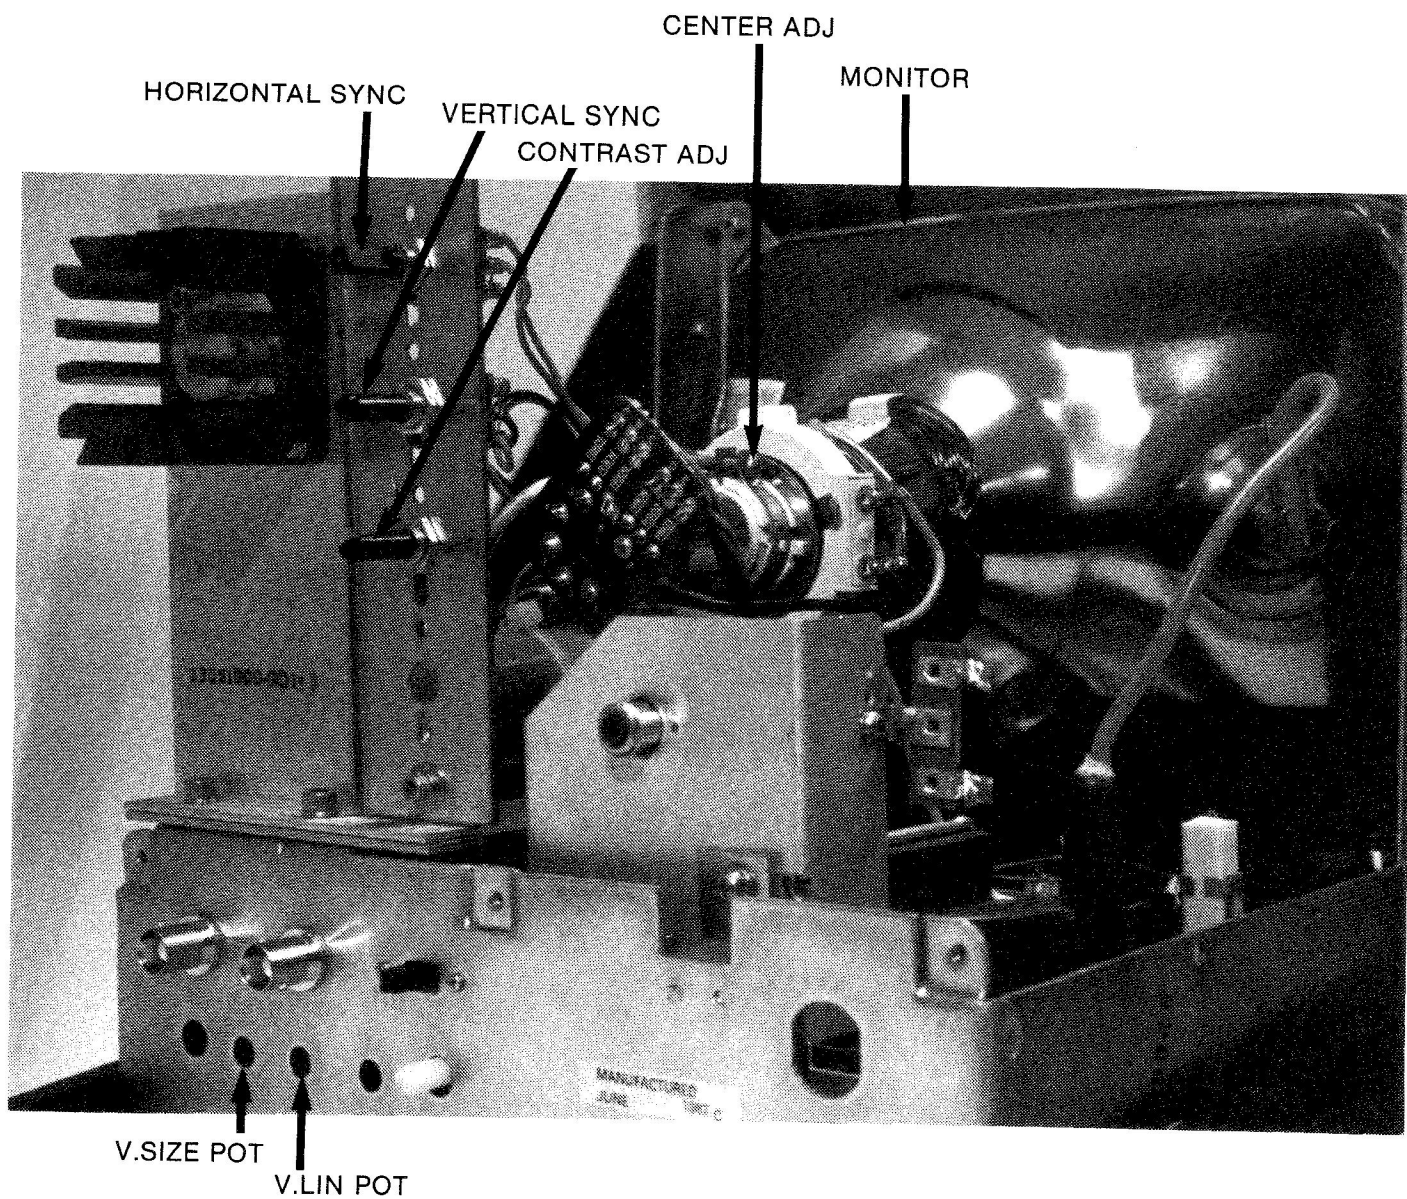

FIGURE 15
4.25 For coarse adjustment: See figure 15
4.30 For vertical size adjustment: See figure 15
4.31 For vertical linearity adjustment: See figure 15
4.32 For vertical sync adjustment: See figure 15
4.33 For horizontal sync adjustment: See figure 15
4.34 For center adjustment: See figure 15